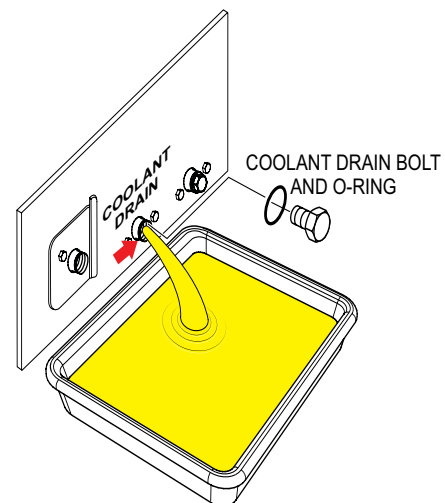

Figure 80. Draining Radiator Coolant
2. Remove the coolant drain bolt and o-ring (Figure 80), then allow the coolant to drain into a suitable container.
2. Remove the coolant drain bolt and o-ring (Figure 80), then allow the coolant to drain into a suitable container